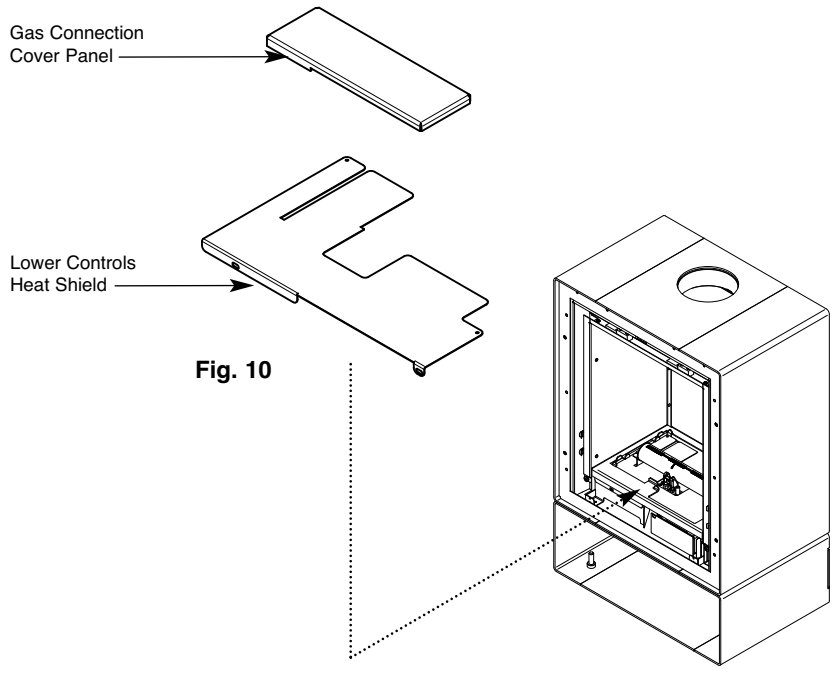

Fig. 10
4. Refit heat shield and ensure gas connection cover panel is fitted (Fig. 10).